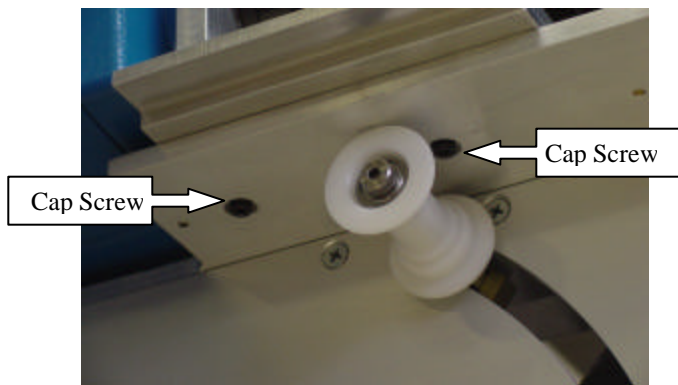

Figure C3
- 1) Loosen the two cap screws that hold the camera. See figure C3.
- 2) If changing to APS, move the camera assembly as far to the right as it will go, then tighten the two cap screws. See figure C3.
- 3) If changing to 35mm, move the camera assembly as far to the left as it will go, then tighten the two cap screws. See figure C3.